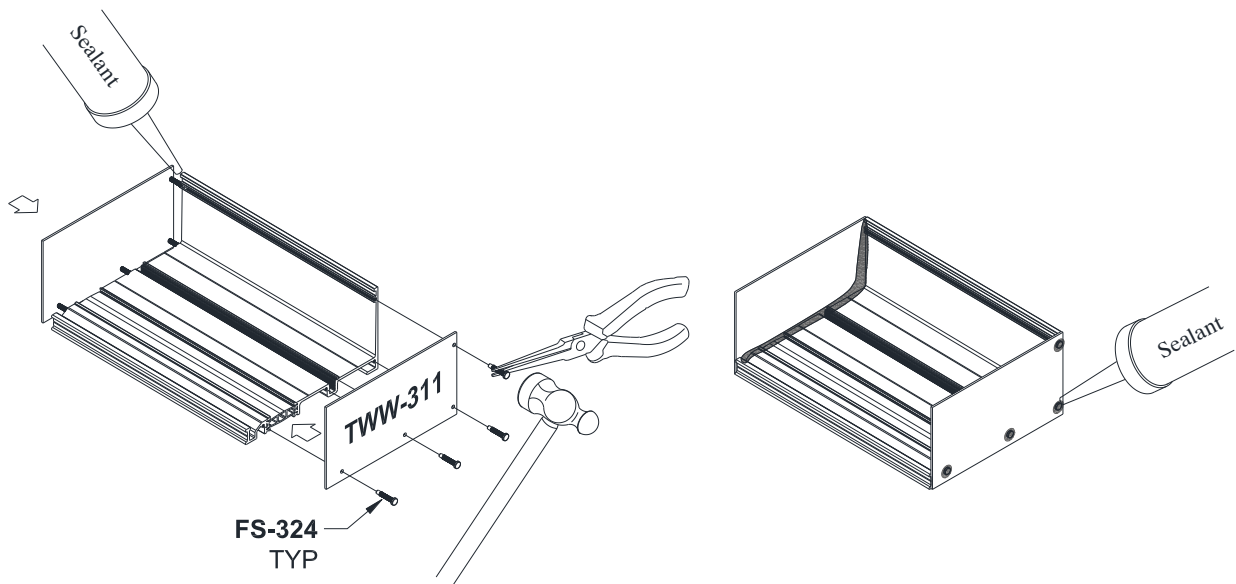

Figure 25: Sill Receptor End Dam Attachment
- 10.2 Attach **TWW-311** End Dam with (4) **FS-324** fasteners, as shown in *Figure 25*, stopping 1/4" short of attaching completely.